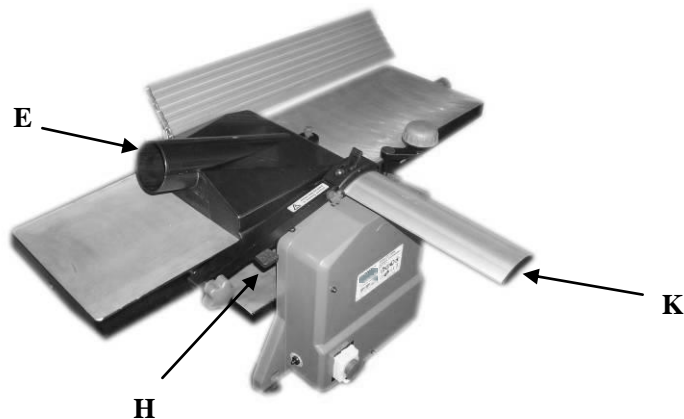

Figure 8
- Remove the blade guard K and place the dust chute E(See Figure 8).